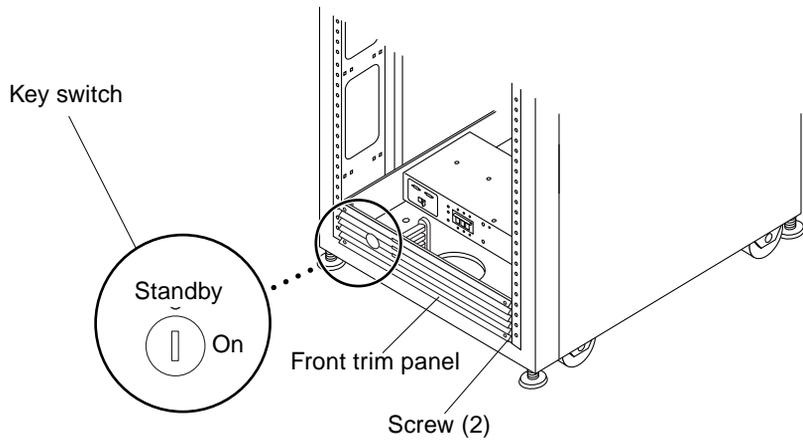

FIGURE 3-7 Location of Key Switch on Bottom Front Panel
- 1. Verify that the key switch located at the bottom front of the rack is in the Standby position (FIGURE 3-7).**
- 3. Loosen the screws on the front and back trim panels and remove the panels (FIGURE 3-7).**